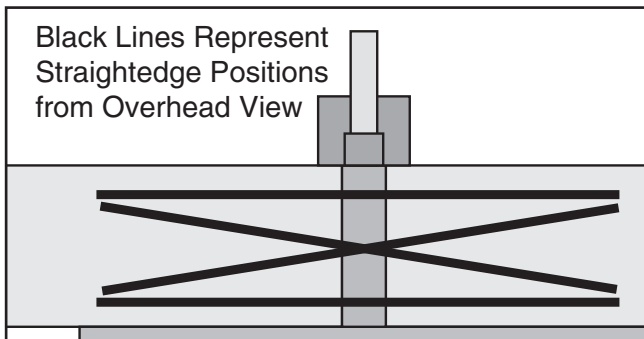

Figure 53. Straightedge positions for checking infeed/outfeed table parallelism.
8. Place straightedge in one of the positions shown in **Figure 53**, and adjust eccentric bushings under infeed table so straightedge lies flat against both tables.